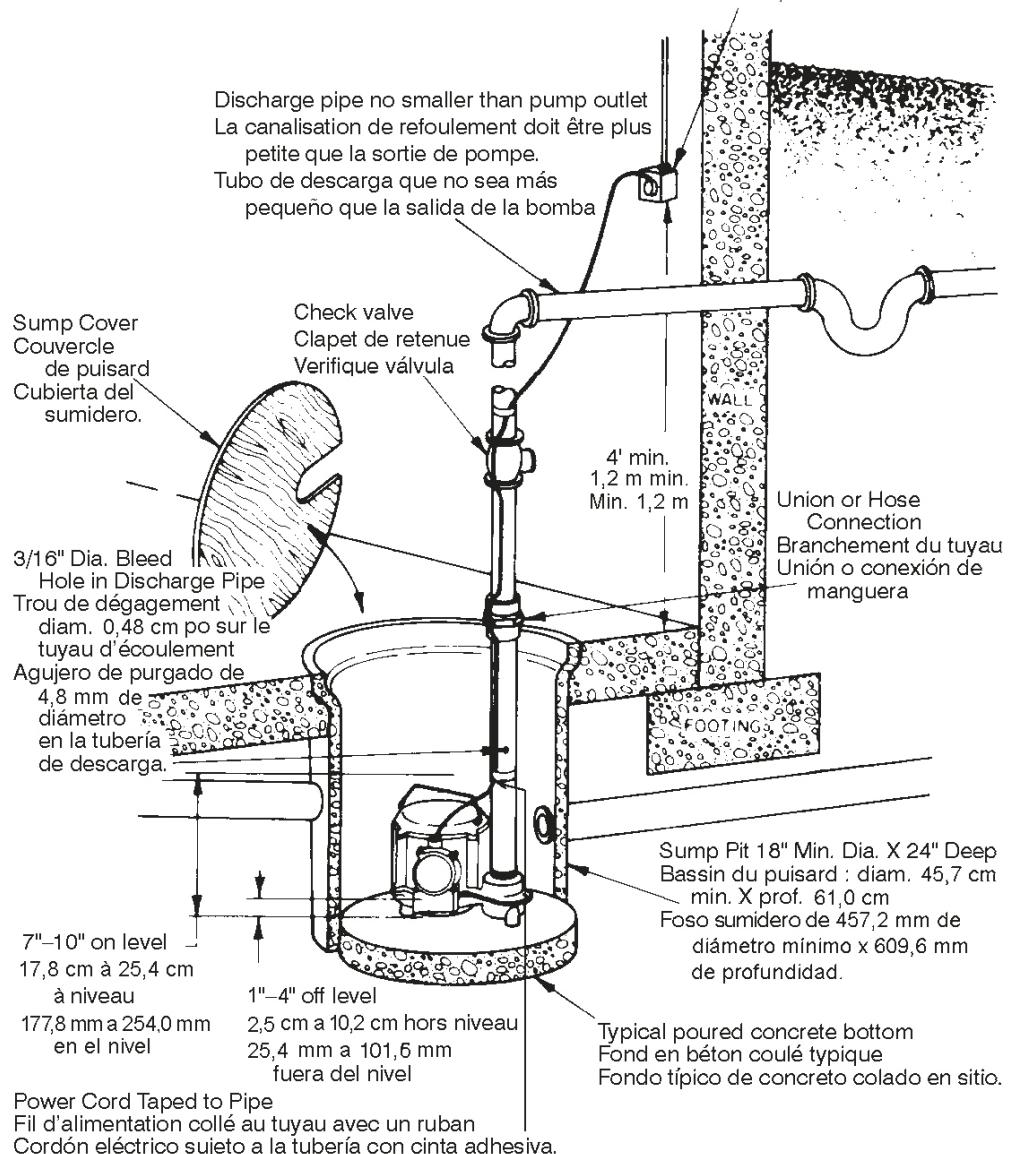

Figure 2 - Typical Installation
7. TEST THE PUMP AFTER ALL CONNECTIONS HAVE BEEN MADE. Run water into sump. Do not attempt to operate the pump without water; this will damage the seals and bearings and could result in permanent damage to the pump. Fill sump to normal ON level and allow pump to remove water to the normal OFF level (Figure 2.)